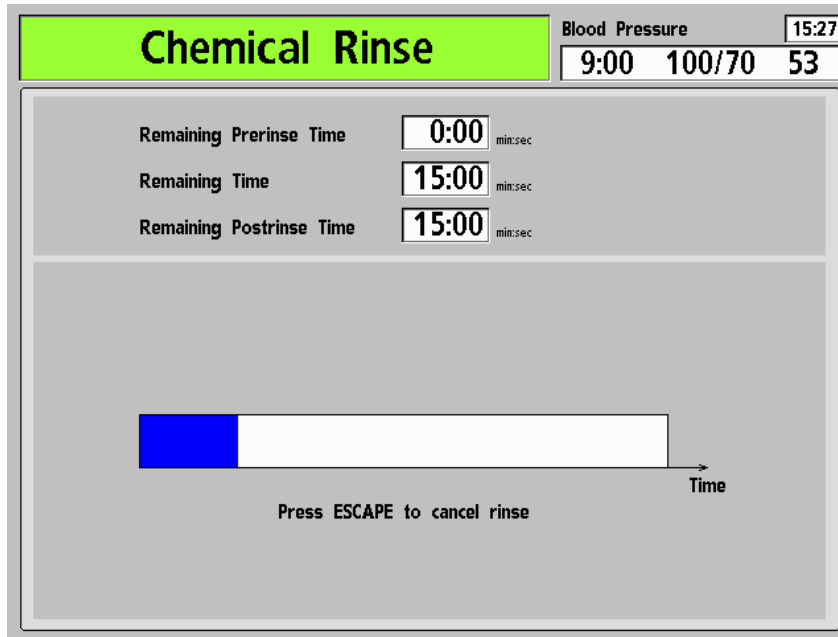

Figure 61 – The Chemical Rinse Screen
4. The “Chemical/Rinse” screen appears in the display (see Figure 61). The progress of the disinfection program is indicated by the horizontal bar. The program starts with a 45 second pre-rinse. The message, “Rinsing Lines, Please Wait” is displayed in the Status Box.